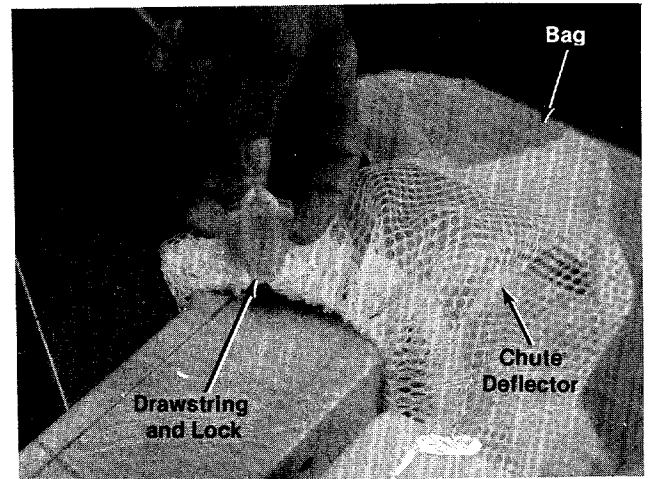

FIGURE 6.
5. Place the bag over the chute deflector and pull draw string and lock. See figure 6.